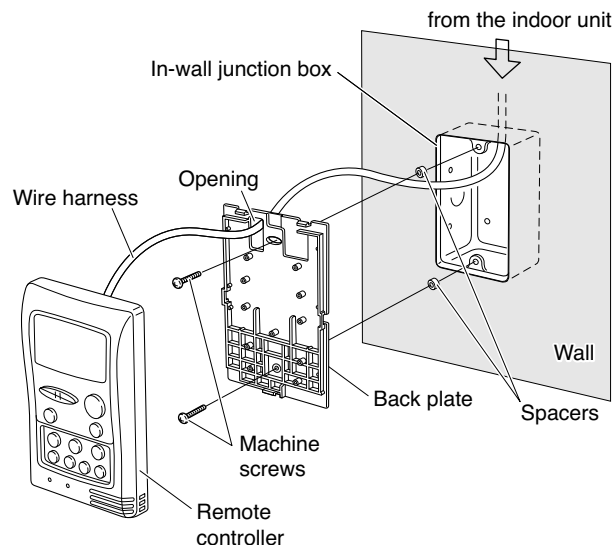

Fig. 3
- (2) Pass the wire harness through the junction box and conduit. (Fig. 3)